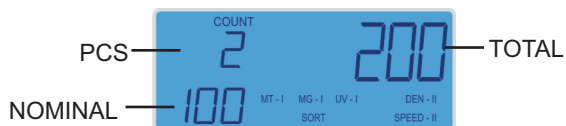

Fig.11
- The display will show the quantity (PCS), the controlled denomination (NOMINAL) and the TOTAL value of the banknotes. Figure 11 represents an example: 2 banknotes of 100 EURO each have been counted: